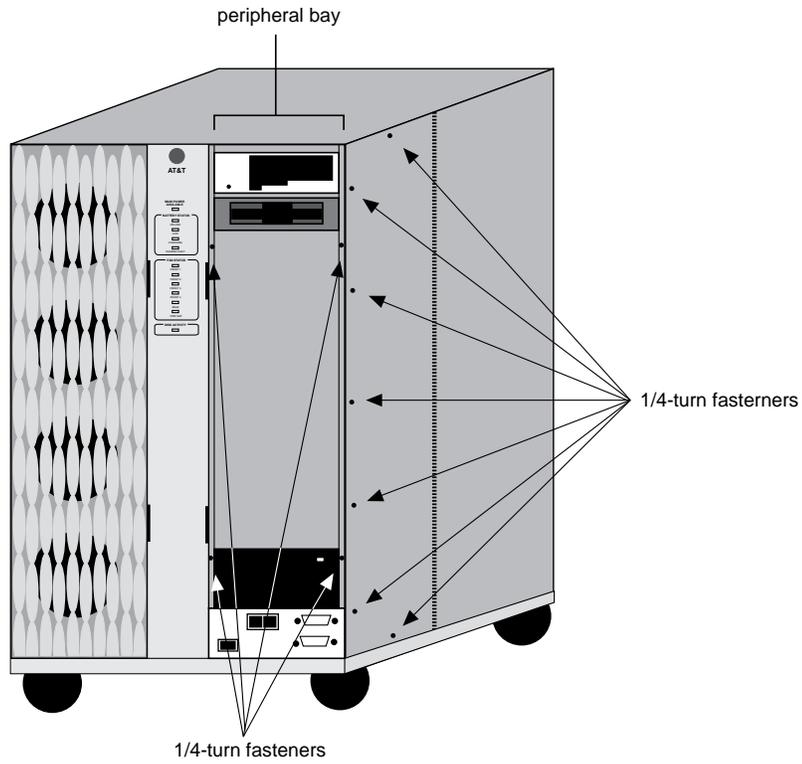

Figure 5-1. Fasteners Around the Peripheral Bay and Peripheral Bay Access Door
4. Loosen the seven 1/4-turn fasteners around the perimeter of the peripheral bay access door and open the door. See Figure 5-1.